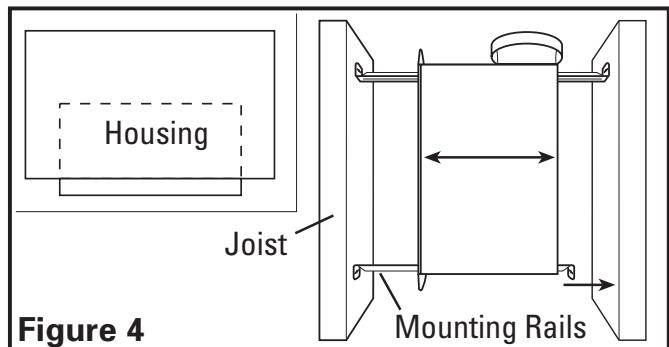

Figure 4
1. **Mounting Rail Installation:** Install the rails on the housing and position the housing next to the joist. Line up housing so it will be flush with the finished ceiling. Secure the ends of the rails with screws or nails (not included) to the joists and slide housing into final position (Figure 4).
1. **Mounting Rail Installation:** Set housing in position between the joist and trace an outline onto the ceiling material (Figure 6). Set housing aside and cut opening, being careful not to cut or damage any electrical or other hidden utilities. Install the rails on the housing and position the housing in the previously cut hole so that it is flush with the finished ceiling. Secure the ends of the rails to the joists with screws or nails (not provided) to ensure proper installation (Figure 4).